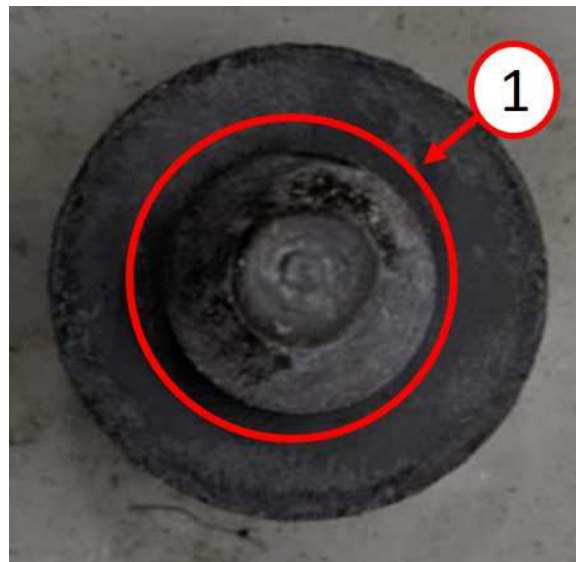
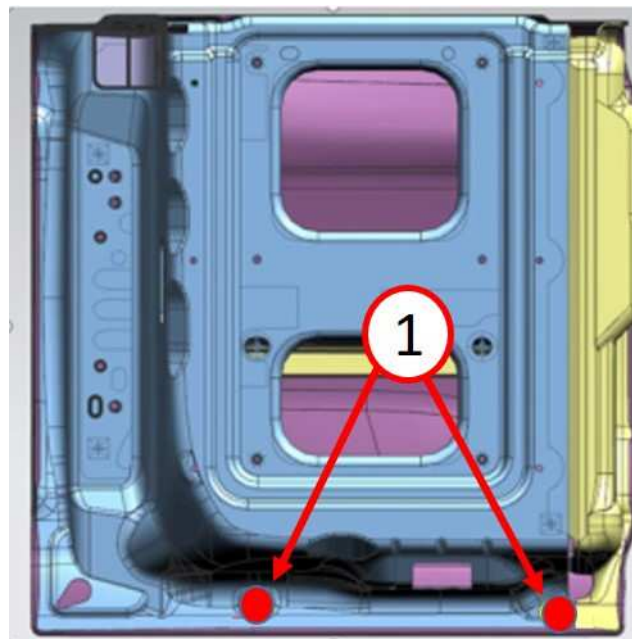

Fig. 2
**Fig. 3**
**NOTE:** Be careful to stay away from the outside perimeter to avoid excess squeeze out of adhesive (Fig. 2) and (Fig. 3) .